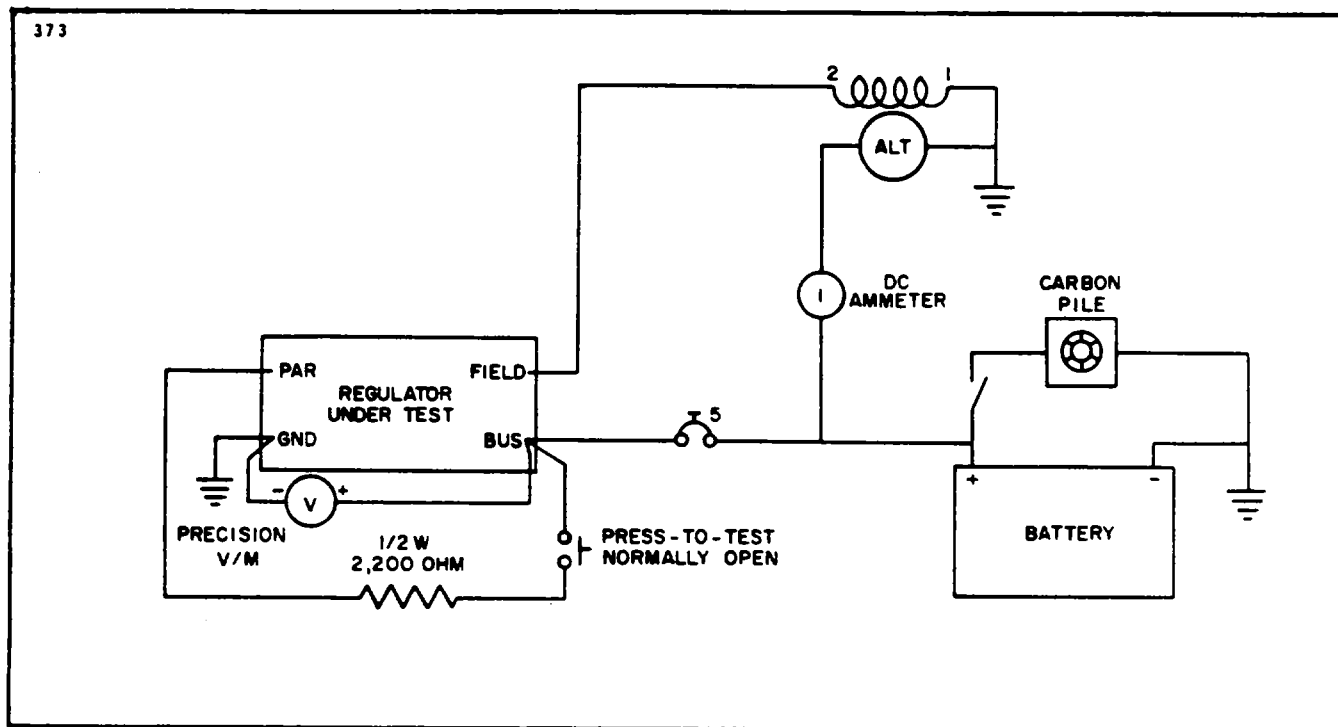

Figure 24-17. Testing Regulator (Lamar)
1. The procedure for testing the regulator, whether on the airplane or on the test bench, remains the same. Connect the test meters and regulator wiring as shown in Figure 24-17.
4. With the connections made as shown in Figure 24-17, start the engine and adjust its speed to obtain an RPM of 1500. Adjust the carbon pile or accessory load to establish the 10 to 15 ampere load value. Note that the battery charge current is indicated by the ammeter. Therefore, the current value may change downward at the beginning of a test run. This will be especially true if the battery was used for engine starting.